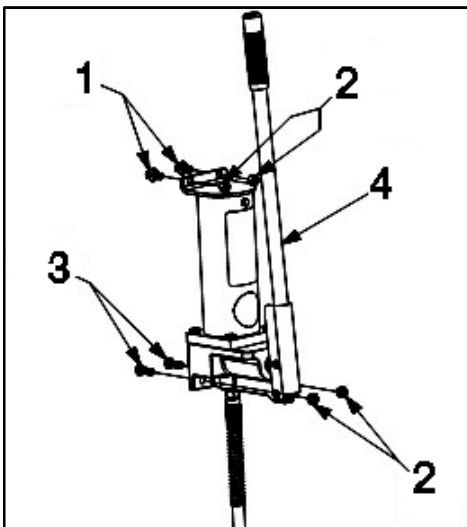

Fig. 2: Manual pump installation
1. Insert the two 3/8" X 3/4" flange head bolts [#1] through the holes in the pump [#4] as shown in Fig. 2 and start two 3/8" nuts [#2] onto the bolts. Only start the nuts [#2] one or two turns onto the bolts [#1].
2. On the opposite end of the pump [#4], insert two 3/8" X 1" bolts [#3] and start a 3/8" nut [#2] on each bolt. See Fig. 2. Only start the nuts [#2] one or two turns onto the bolts [#3].